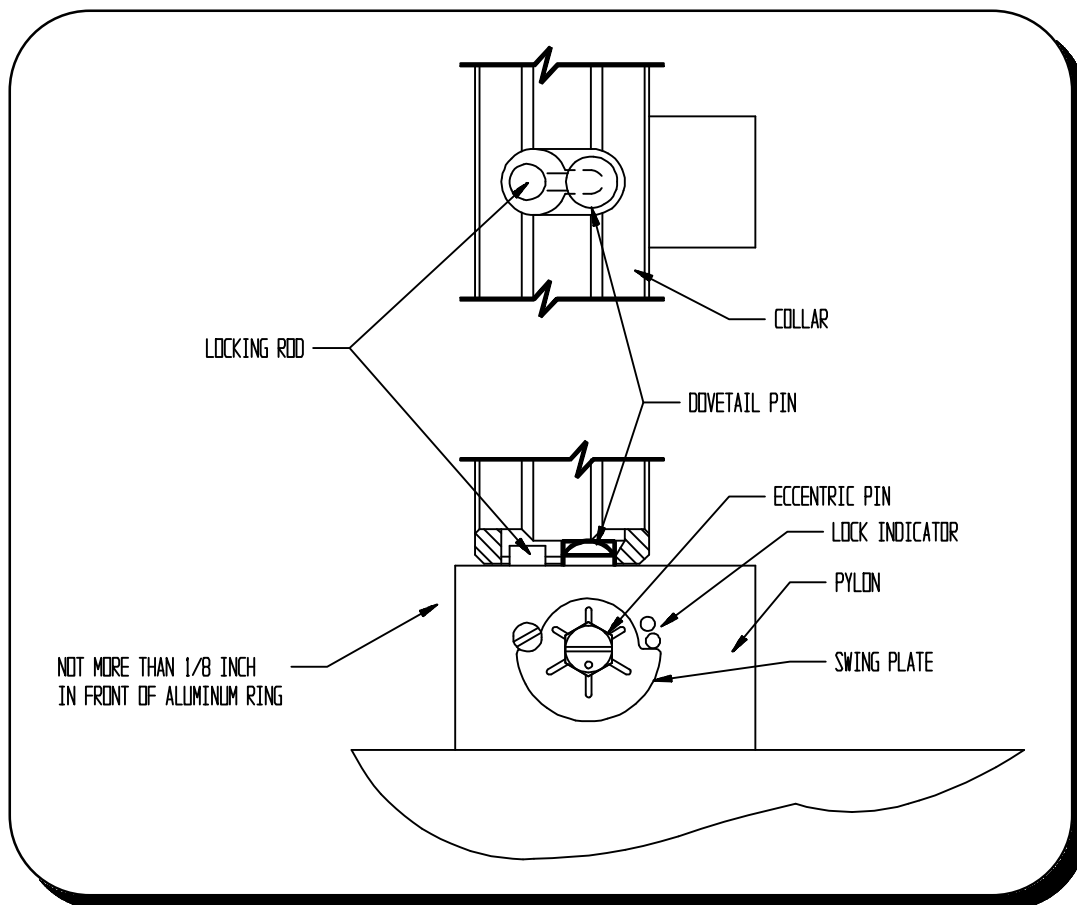

Figure 3.2a. Rear pylon with round locking rod (after 9/92), shown latched.
The following procedure describes the correct method for installing a Model 5000 bird (round locking rod type) on the seismic streamer. Refer to Figures 3.2a and 3.2b for part identification.
4. Slide the bird back on the collars as far as it can go. The leading edge of the front pylon should be even with or behind the front edge of the aluminum collar ring and the leading edge of the rear pylon should be no more than 1/8 inch ahead of the front edge of the rear collar ring (see Figures 3.2a and 3.2b).